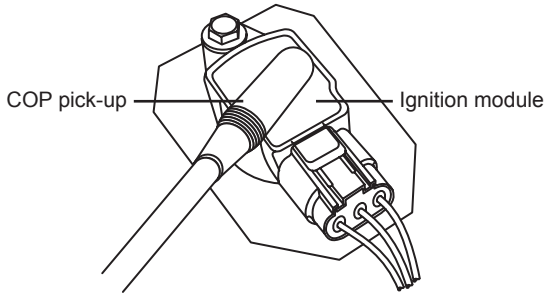

Fig. 11 - Using the COP pick-up on a ignition module
- 5- Place the COP pick-up on the top and center of the ignition module (as shown in the Fig. 11), and observe whether the instrument is able to detect and display the desired measurement.